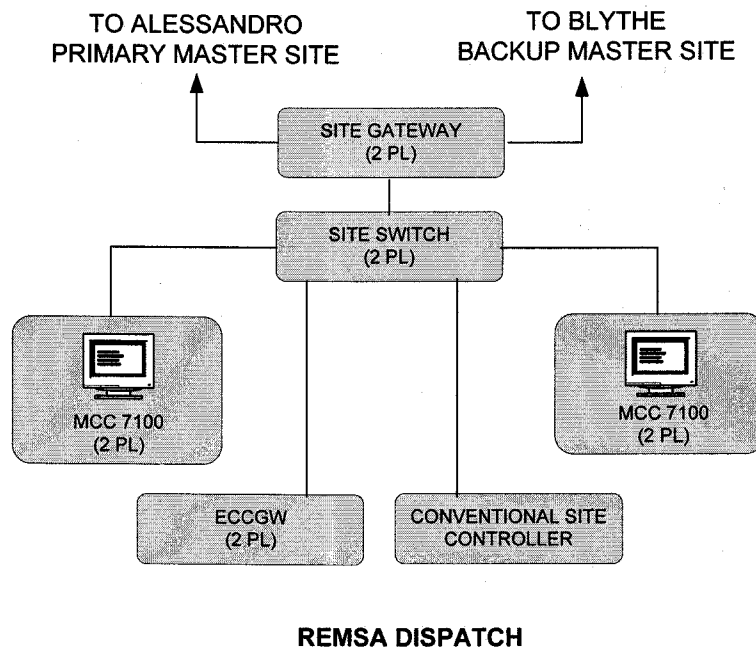

Figure1-1: High Level Block Diagram
Motorola is pleased to provide the Riverside County Emergency Management Services Agency (REMSA) with a proposal for MCC 7100 dispatch consoles to replace their existing MIP 5000 consoles. Motorola's proposed dispatch solution includes four (4) MCC 7100, two (2) site gateways, two (2) site switches, two (2) enhanced conventional channel and one (1) conventional site controller. A high level block diagram is shown below in Figure 1-1.